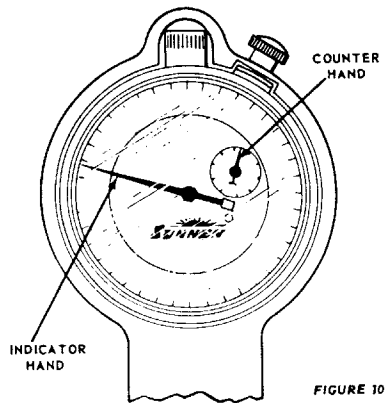

FIGURE 10
3. See Figure 10. Holding indicator housing in one hand and gaging head in the other, slide indicator housing away from sleeve assembly. Indicator Hand will move to the 9 o'clock position (its maximum counter-clockwise position).